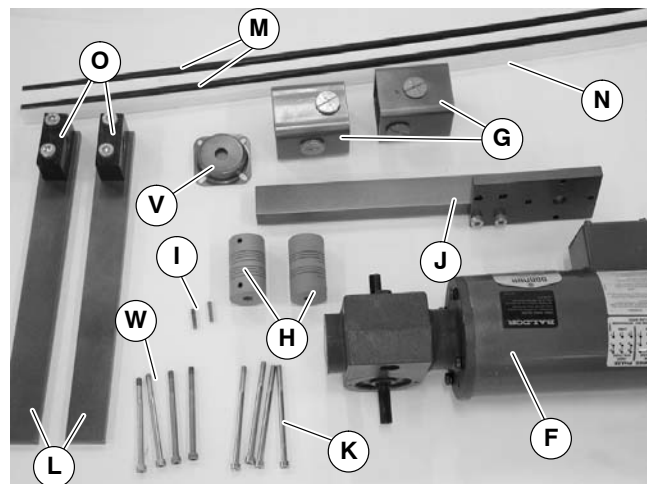
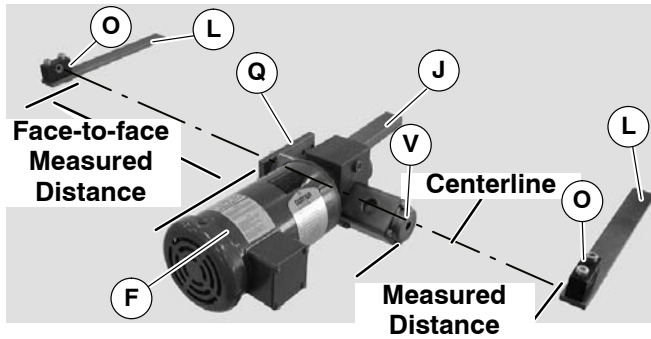

Figure 11
Figure 18
1. Gather components (Figure 11).
NOTE: Mounting holes are not provided. Ensure that gearmotor assembly (J of Figure 18) and bearing support assembly (L) are parallel and center-line of coupling matches center-line of bearing block (O).
8. Attach gearmotor assembly (J of Figure 18) and bearing support assemblies (L) to mounting surface.
9. Measure distances between motor mounting plate (Q) and bearing block (O) and from shaft cover (V) to bearing block (O).
10. Cut hex shafts (M of Figure 11) to measured distances (Figure 18) plus 2-1/8" (54 mm) on both sides of gearmotor assembly.